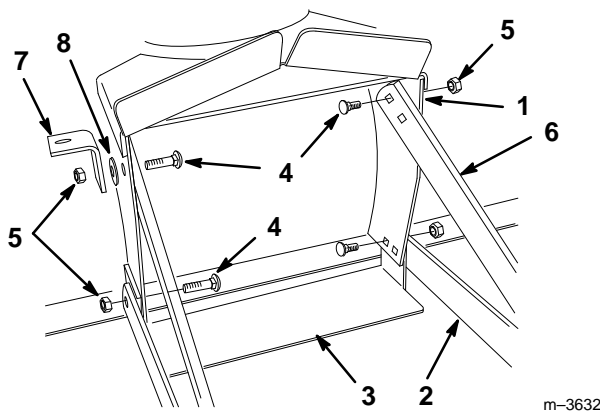

Figure 5
1. Attach the long lift bars to the bottom holes on the outside of the snowthrower auger housing and lower snow shield with (4) 3/8 x 1-1/4 carriage bolts and (4) 3/8" locknuts (Fig. 5).
2. On the right-hand side of the auger housing, attach a short lift bar to the upper holes on the inside of the housing with (2) 3/8 x 1-1/4" (32 mm) carriage bolts and (2) 3/8" locknuts (Fig. 5).
3. On the left-hand side of the auger housing, attach a short lift bar and the rotator support bracket to the upper holes in the housing with (2) 3/8 x 1-1/4" (32 mm) bolts, (2) 13/32" (10 mm) washers, and (2) 3/8" locknuts. Make sure the short lift bar is on the inside of the auger housing and the rotator support bracket is on the outside (Fig. 5).